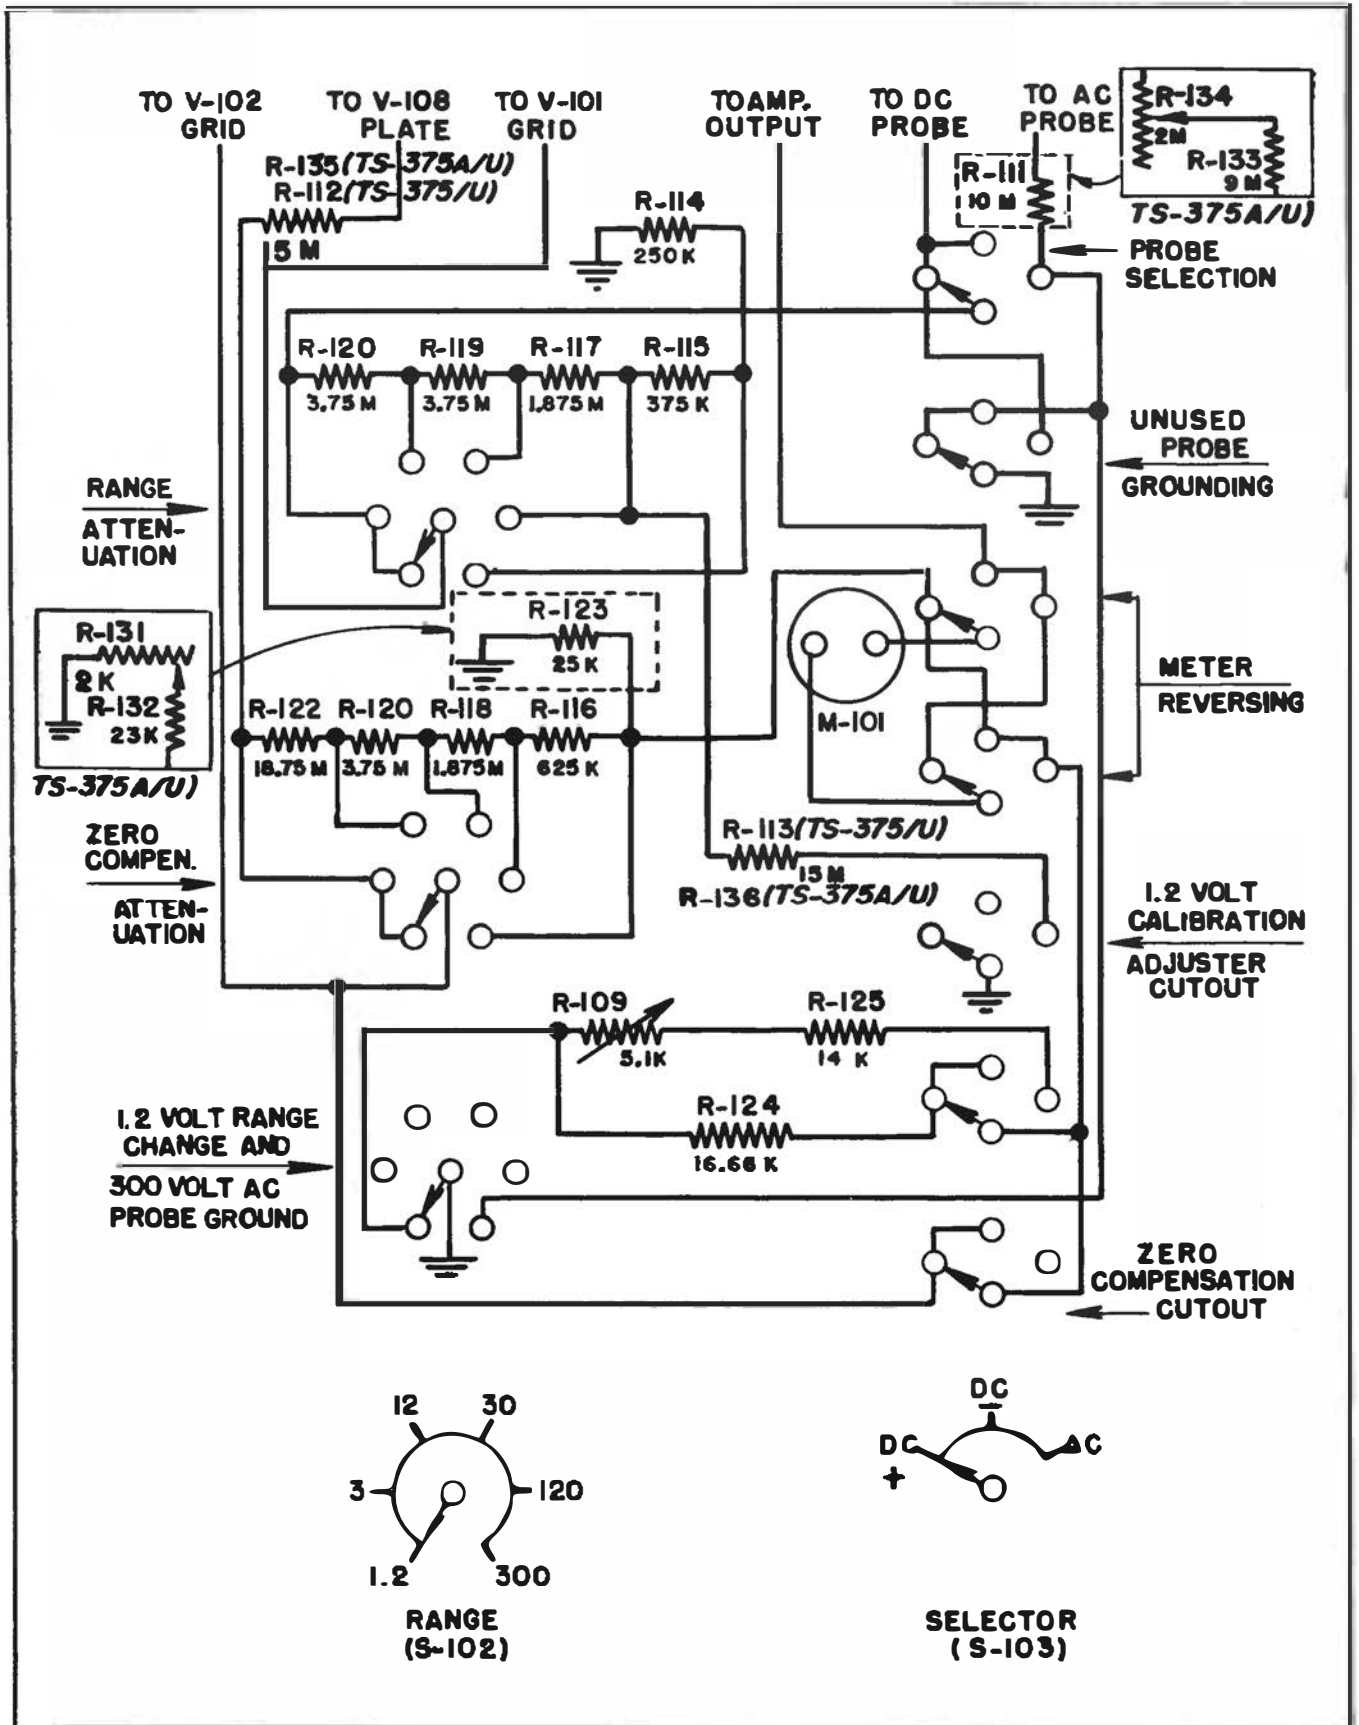

Figure 3-4. Switch Section, Switching Functions
e. SWITCH SECTION.—(See figure 3-4.) The switch section comprises the range and function selector switches, together with the necessary group of accurately adjusted resistors to obtain the various ranges. The range switch is actually a calibrated attenuator located between the input probes and the amplifier to divide the input voltage for range selection. The selector switch selects between the d-c and the a-c probe, and performs certain other circuit switching functions necessary to each type of measurement. Refer to paragraph 5 of this section for details.
a. **SWITCHES.**—The Switch Section consists of a range switch (S-102) for selecting the desired range of input voltage, and a Selector Switch (S-103) for selecting the desired function, d-c input of either polarity or a-c input. Reference is made to the simplified switch circuit of figure 3-4.
(1) **RANGE SWITCH.**—The range switch with its connected resistors is essentially an input attenuator and changes range by accurately dividing the input voltage. In addition on a-c ranges it is necessary to correct for the contact potential of the diode rectifier in the a-c probe (Paragraph 9. a. (1)) so the contact potential of a balancing diode is applied through a second attenuator section similar to the range attenuator. The attenuation is not changed when switching from the 3-volt to the 1.2-volt range; instead the range is changed by changing the range of the output voltmeter by the application of a shunting resistance (R-124) across the voltmeter resistor (R-123 in the TS-375/U or R-131 and R-132 in the TS-375A/U). Thus when switching from 3 volts to the 1.2 volt range the only connection change is reduction of the output voltmeter range by shunting. The range switch also grounds the a-c probe lead in the 300-volt position so that the instrument will not be functional on a-c input voltages that can damage the diode rectifier.